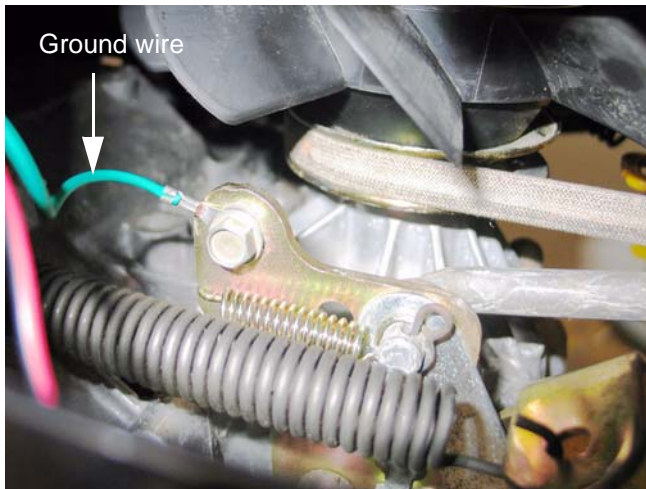

Figure 34.11
- 34.11. Disconnect the ground wire from the transaxle using a 3/8" wrench and a 7/16" wrench. See Figure 34.11.